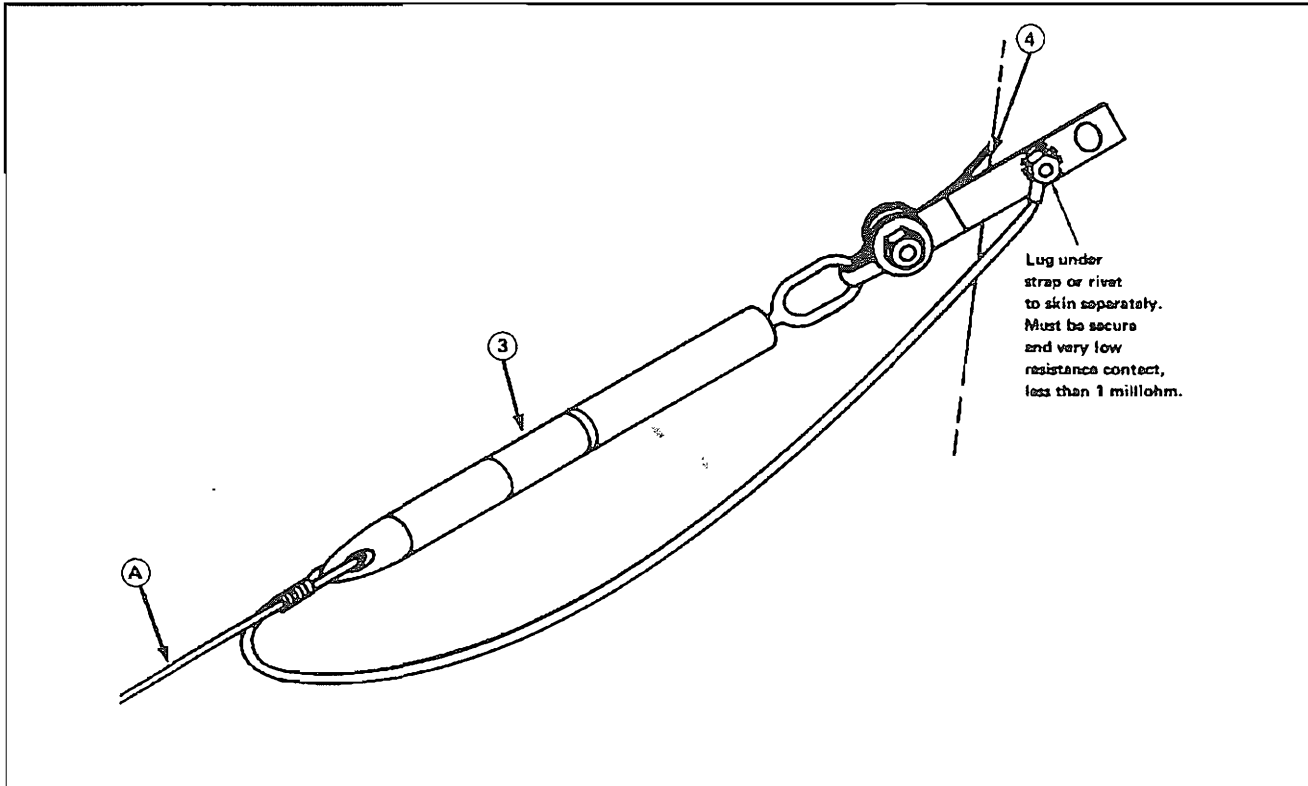

Figure 2.5 Antenna Grounding.
For straight grounded antennas (see Figure 2.5), the antenna (A) from feed through insulator (Item 1, Table 2.1) is fed through the V-tension unit (Item 5) and clamped or tied with nylon cord (as shown) to proper length. Ground antenna with ground lug to Item 4 of Table 2.1 or aircraft skin. Ground connection **MUST** be secure, low resistance and capable of high current.